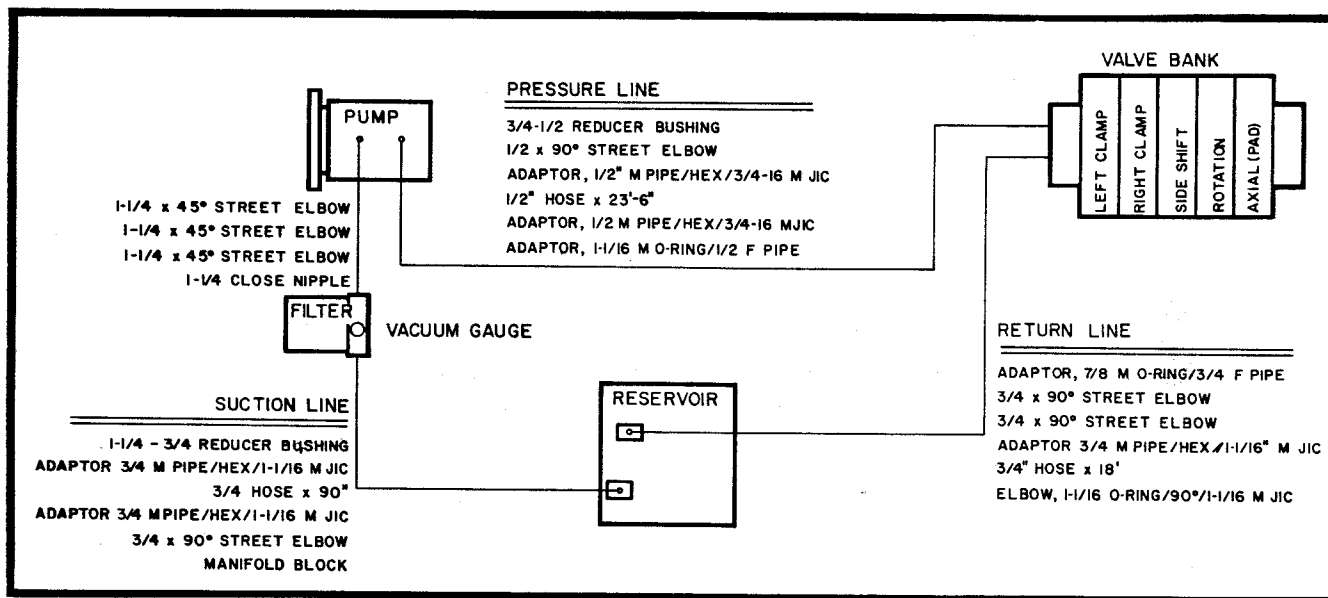

Figure 3
6. Install the fittings and suction filter on the pump inlet (Figures 3 and 4). The pump and adaptor plate will have to be removed to provide clearance for the oil filter and fittings. Use a good thread sealer and adequately tighten fittings to prevent leaks.
7. Install the suction line and fittings between the reservoir and suction filter (Figure 3).